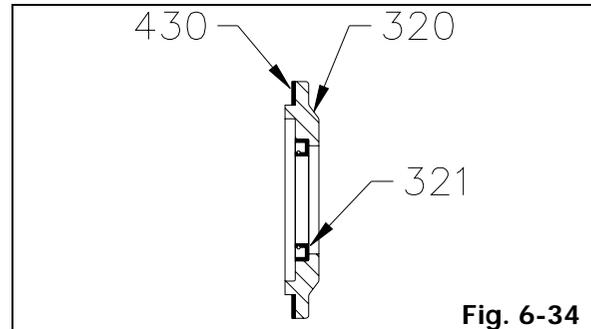

Fig. 6-34
7. Place a new bearing cover gasket (430) on bearing cover (320).
8. Coat oil seal (321) seat surface with oil. Press oil seal (321) into bearing cover (320) by hand until the shoulder of the seal is fully seated against the cover (Fig. 6-34).